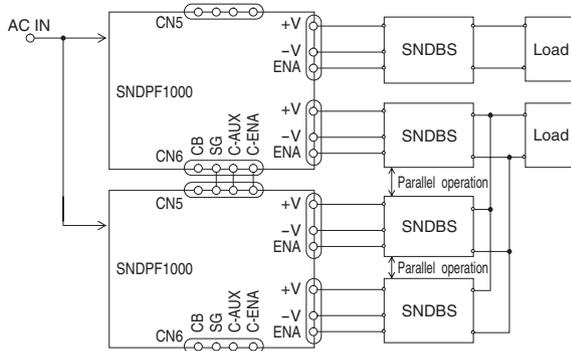

Fig.5.2 Synchronized start up connection Example
- Make a connection in Figure 5.2, ENA signal to be synchronized, even if you do not parallel operation is possible. When all SNDPF1000 connected becomes able to work, ENA signal turns into H.